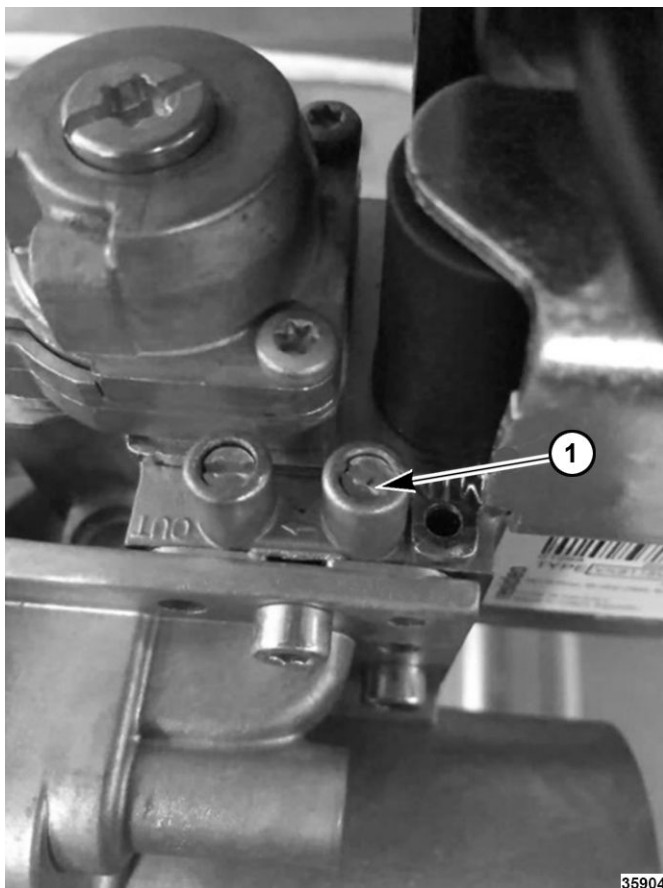

Fig. 50
- B. Loosen and put a hose over it (1, Fig. 50).